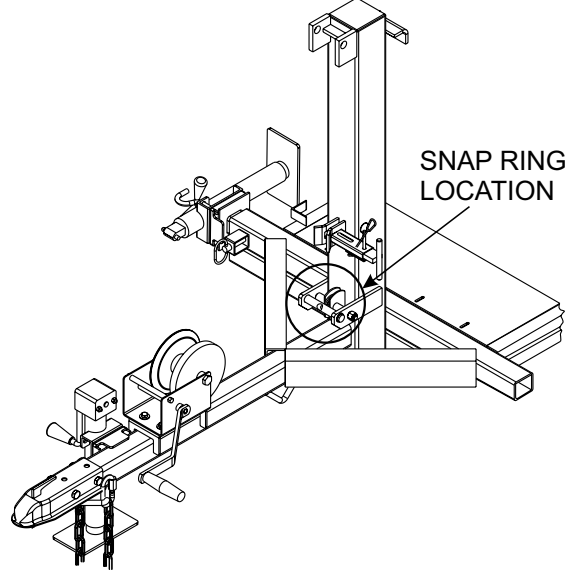

Figure 1. Location of Snap Rings
1. Inspect snap rings on both ends of the spring that anchors the mast cable on the light tower trailer. See Figure 1 for location of snap rings.